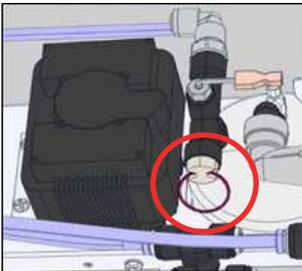

Figure 3
12. Purge the carbonator (figure 3) by pulling the valve ring to remove the air until only water flows (figure 4).